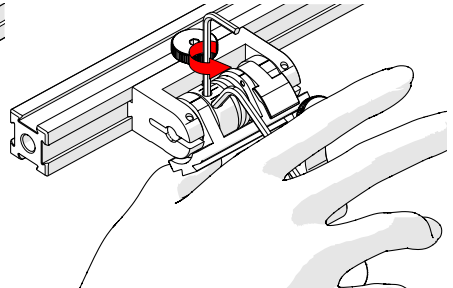

Fig. 79 - Press 3 mm hex wrench down
5. Lightly press the long arm of the 3 mm hex wrench down. Using the 2 mm hex wrench, loosen the force adjustment screw but do not remove it (Fig. 79).